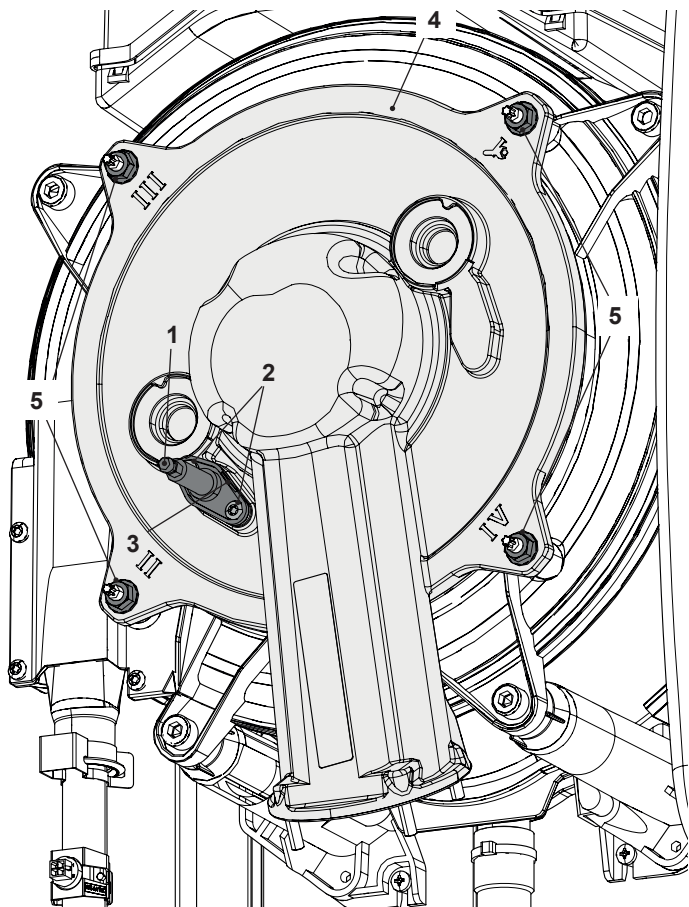

Figure 18.1
- 2 Disconnect the electrode connector "1" and the earth wire "3" (Figure 18.1).
- 3 Unscrew the nuts "5" (Figure 18.1) and remove the cover of the combustion chamber.